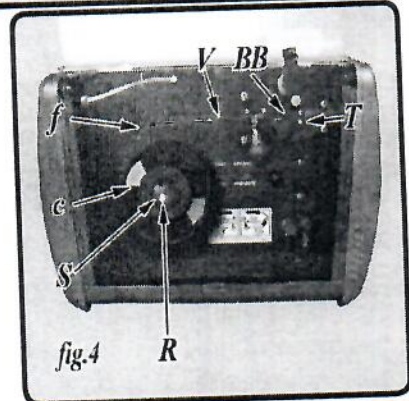

fig.4 R
2. **LOOSEN** the spool retainer and tension knob (S, fig.4) and remove them.
3. **INSTALL** the wire reel (d, fig.4) on the shaft (R, fig.4).
5. **CHECK** before putting the wire (f, fig.4) through the wire feed drive assembly (T, fig.4) to be sure the drive roller is set to accommodate the thickness of wire you are using. Refer to fig. 6 for details.
12. **INSERT** the wire into the inlet guide tube (V, fig. 4 & 6). Guide it over the correct channel on the drive roller and at least 12 inches (30 cm) of wire (f, fig. 4) into the torch cable sheath (BB, fig 4 & 6).